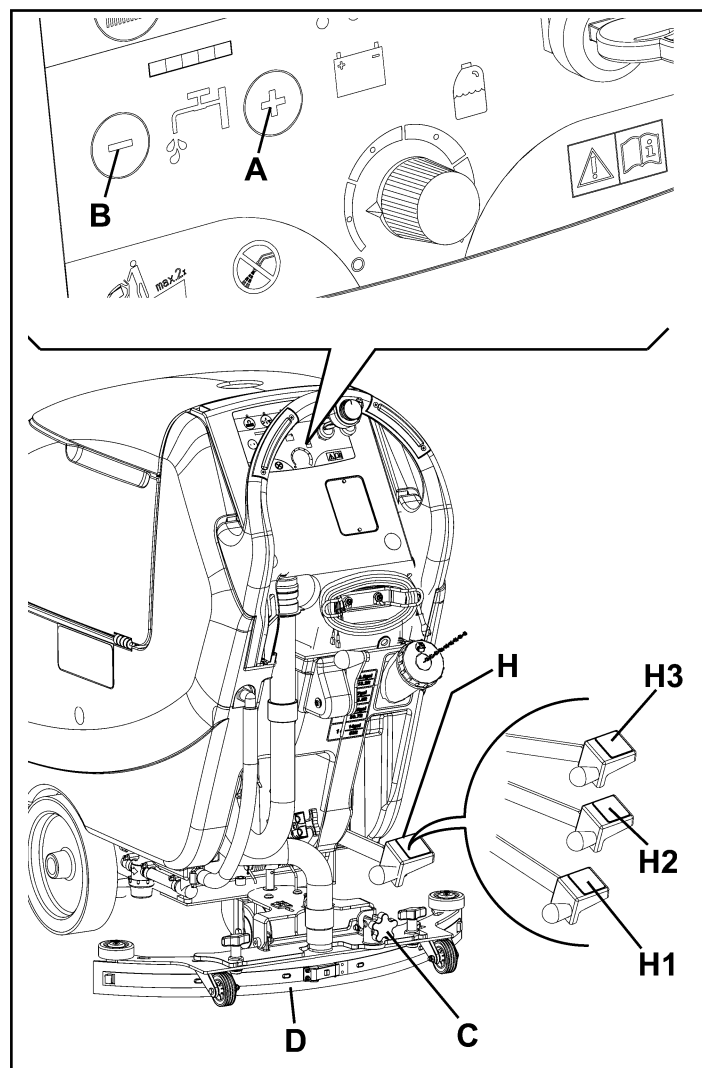

Figure 17
2. If necessary, press the washing water flow control switches (A and B, Fig. 17) as necessary, depending on the type of cleaning to be performed.
3. If necessary, stop the machine and adjust the squeegee with the knob (C) so that the rear blade (D) touches the floor along all its length.